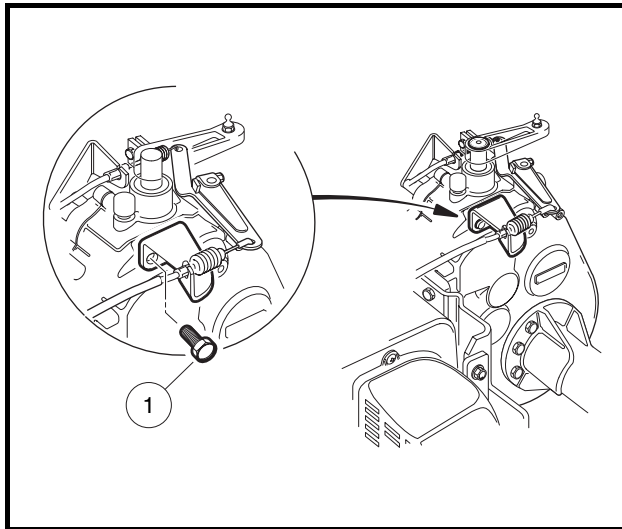

Figure 16-32 Governor Cable Bracket
19. Remove screws (1) securing the governor cable bracket to transaxle (**Figure 16-32, Page 16-13**).
7. Install the governor cable bracket on transaxle case. Tighten the mounting screws to 134 in-lb (15.1 N·m) (Figure 16-32, Page 16-13).